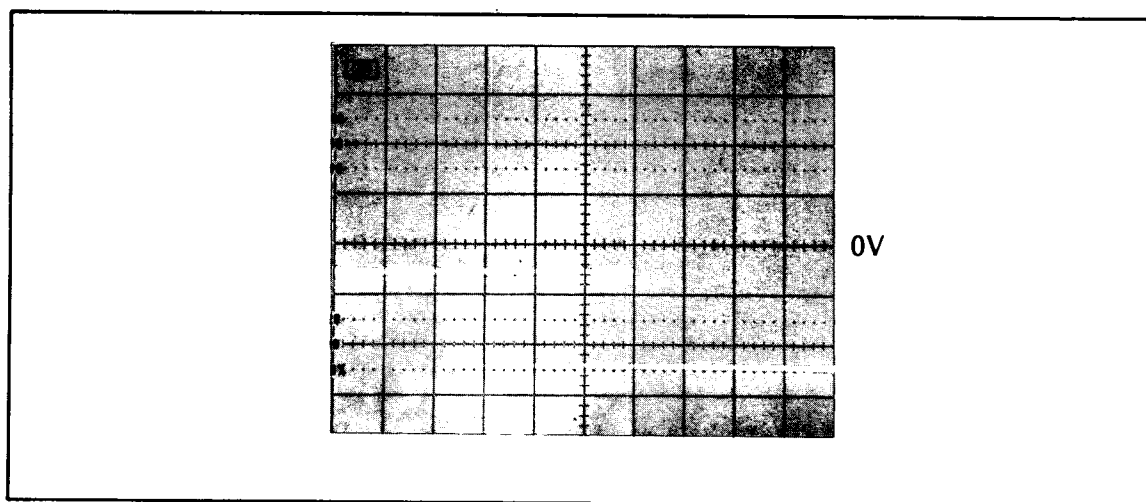

*Figure 5-2. Input Amplifier Adjust Waveform **
- g. Adjust A3R96 (offset) to position the waveform at the center of the screen. Adjust A3R88 (hysteresis) for 20 mV p-p on the X-axis. Refer to the waveform in *Figure 5-2*.
- k. Adjust A3R47 (offset) to position the waveform at the center of the screen. Adjust A3R37 (hysteresis) for 20 mV p-p on the X-axis. Refer to the waveform in *Figure 5-2*. This completes the adjustment of Channel A and B; turn the 5335A off and disconnect all test equipment.